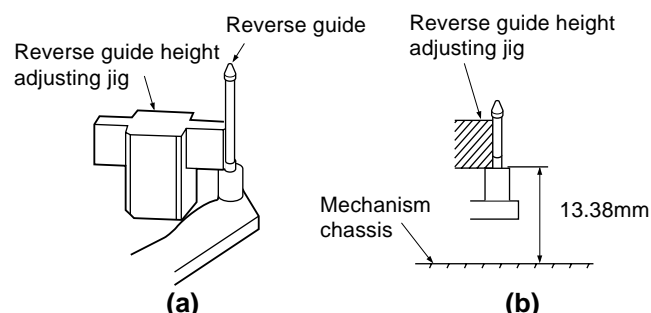

Figure 1-28.
1. Adjust the height from the mechanism chassis to the reverse guide lower flange to 13.38mm, using the reverse guide height adjustment jig, in tape loading state. (Refer to Figure 1-28 (a) (b).)